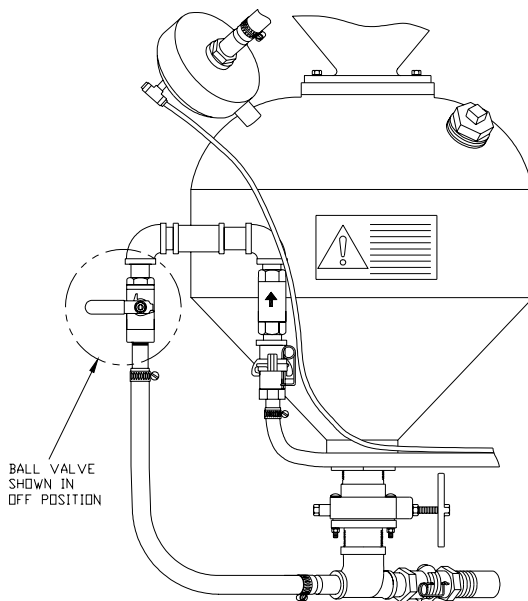

Figure 14. Closed Choke Valve
- B) Close the choke (ball) valve on the pressure vessel pipe string. (See Figure 14).